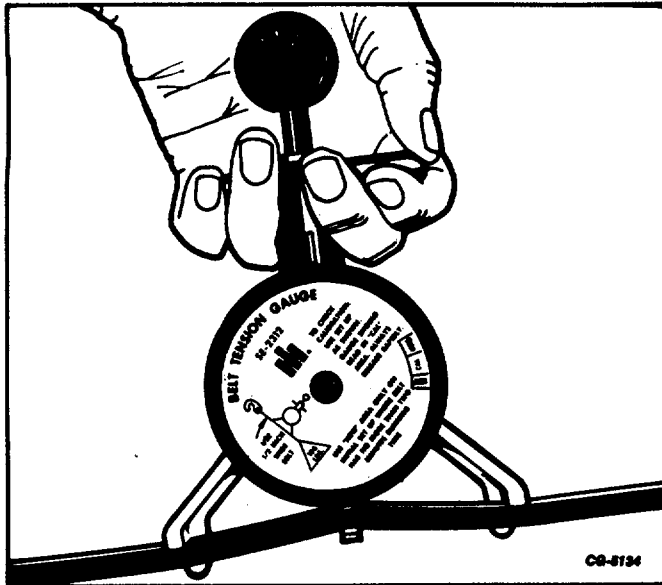

Fig. 156 Testing Alternator Belts Using SE-2312 Gauge
Alternator belt tension can be accomplished with the use of SE-2312 gauge, Figure 156. Check tension at midpoint between the pulleys. Apply gauge to the longest belt span. Instructions for checking are as follows:
2. Apply gauge to belt, Figure 156. Be sure belt is positioned between nose piece and hook and that the nose piece is centered on the belt.